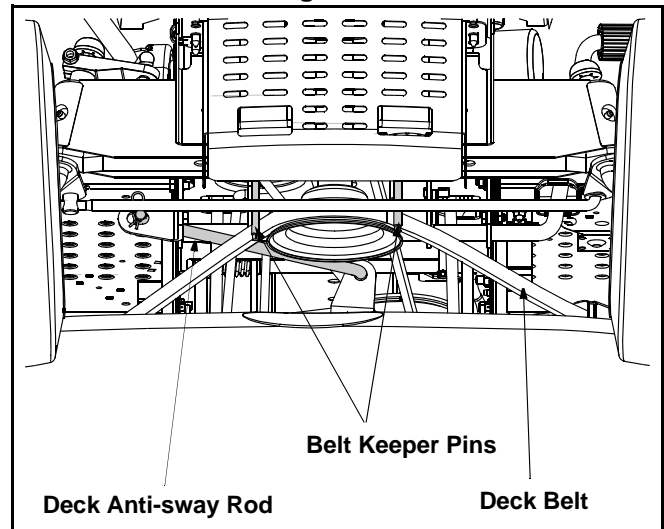
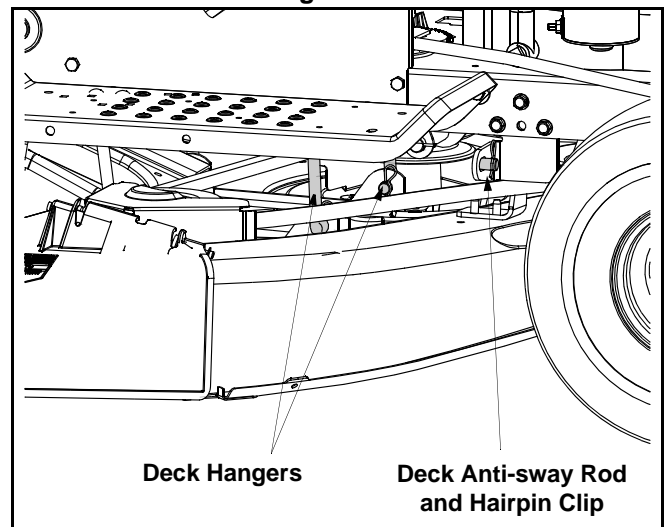

Figure 25
Figure 26
- Locate the two belt keeper pins, found on either side of the engine pulley, and use a 1/4-inch socket wrench to remove them from the lower frame. See Figure 25.
- Locate the deck anti-sway rod and deck hangers found near the front of the cutting deck. See Figure 25 & Figure 26.
- Locate the two belt keeper pins, found on either side of the engine pulley, and use a 1/4-inch socket wrench to remove them from the lower frame. Refer to Figure 25.